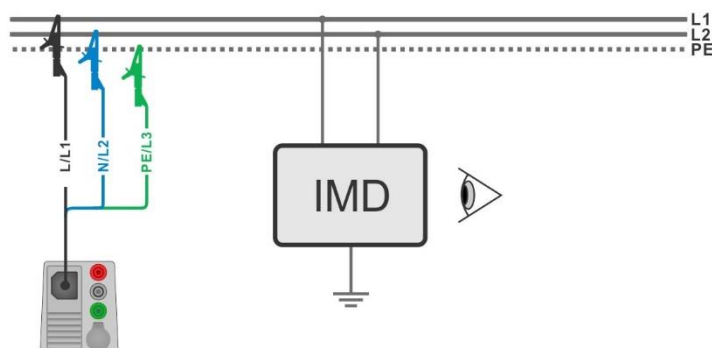
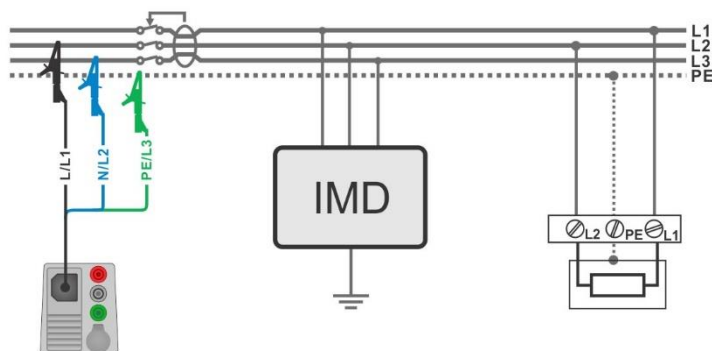

Figure 7.90: Measurement of highest First fault leakage current with 3-wire test lead
Figure 7.91: Measurement of First fault leakage current for RCD protected circuit with 3-wire test lead
- › Connect 3-wire test lead to the object under test, see **Figure 7.90** and **Figure 7.91**.